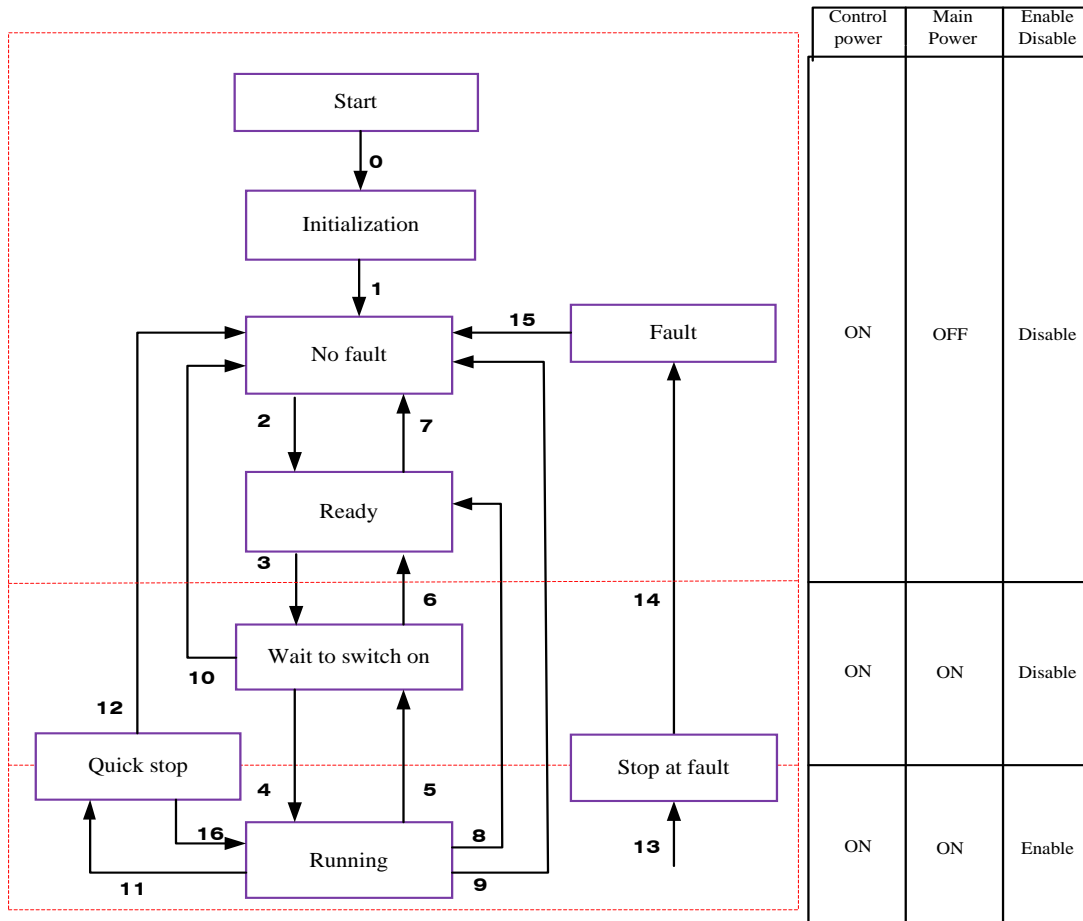

Figure 6.1 EL6-CAN 402 State Machine switchover diagram
*1) The state machine switch corresponds to figure 6.1